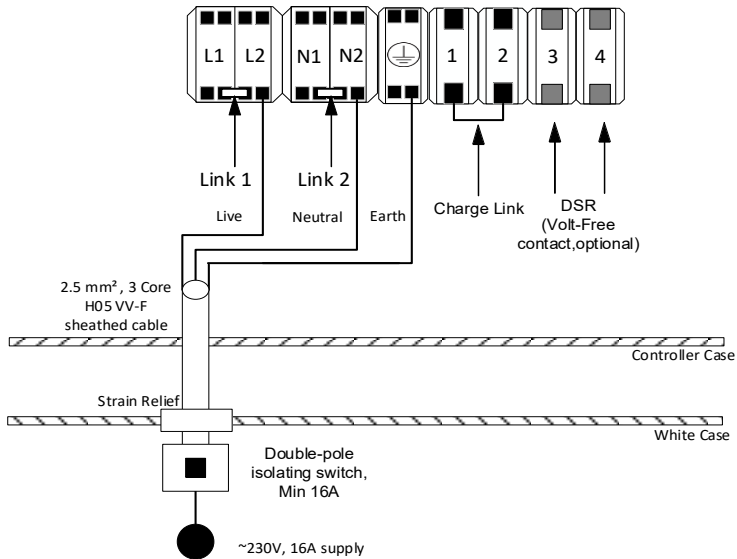

Figure 11 - Thermino ePlus Heat Battery wiring without solar power diversion
- Without Solar Power Diversion follow Section 6.4.1, Figure 11.